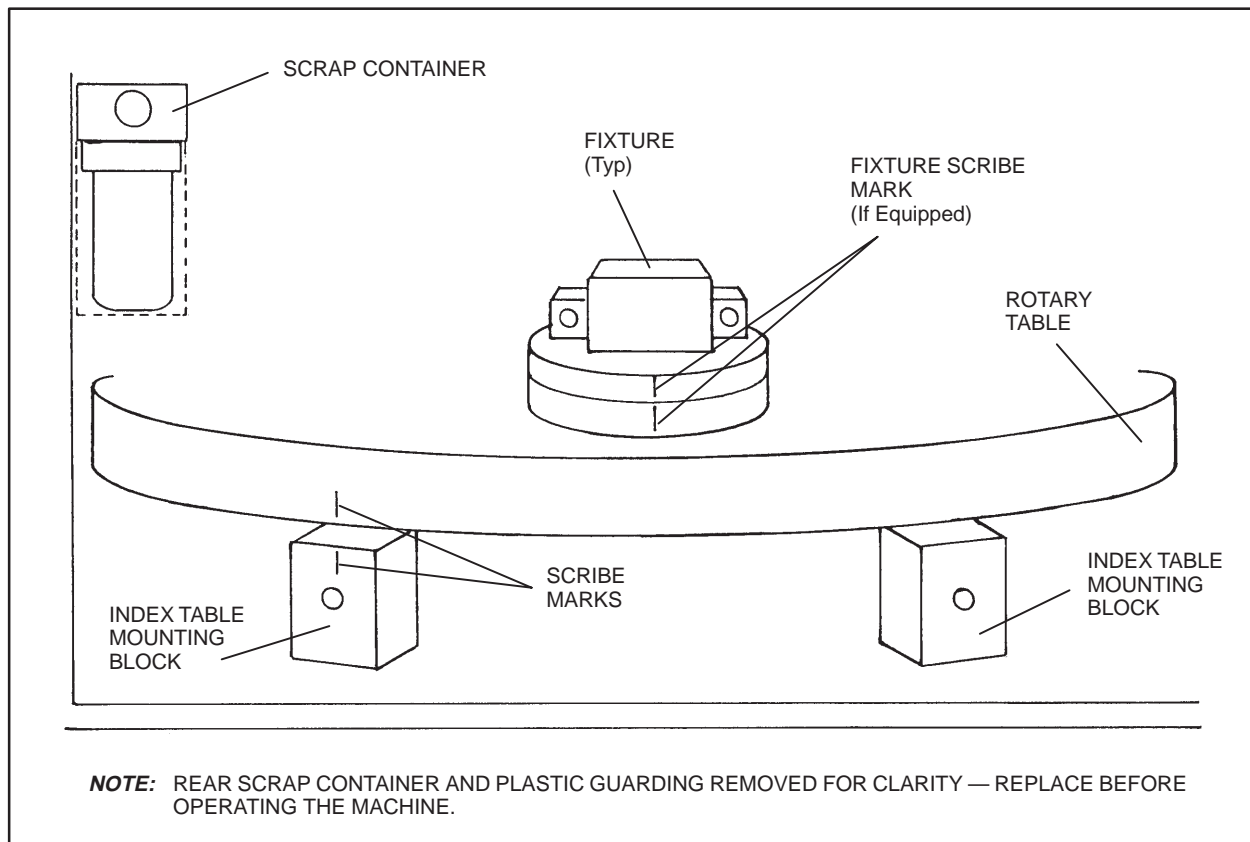

Fig. 3-2. Initial Position Adjustment
3.5. Initial Adjustment (Figure 3-2)